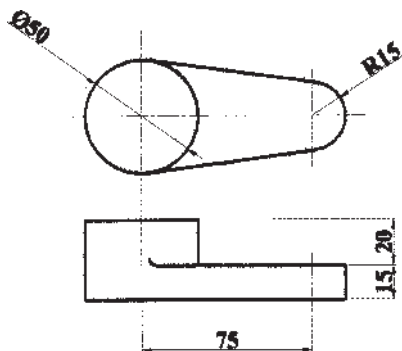

Fig. 5: Close die forging job
5. a) What is edging ? And design edging impression for the component in fig.5. 6